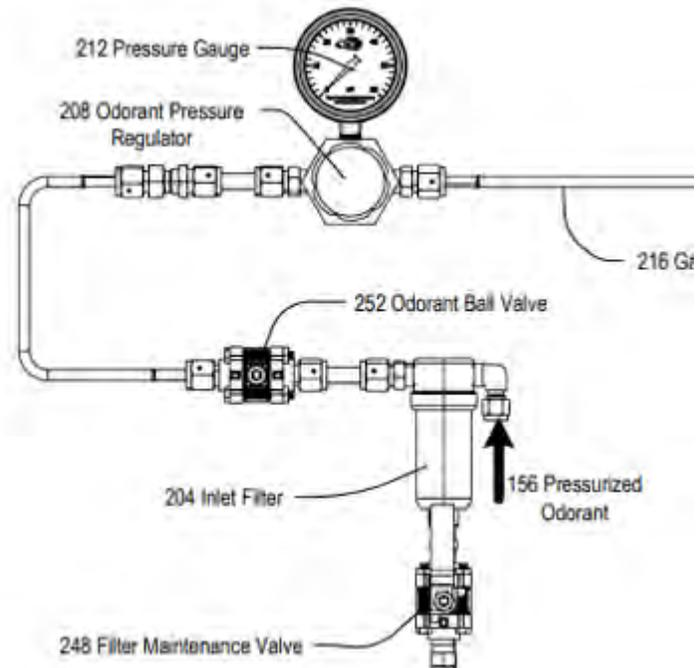

Figure 17 Shows the odorant supply ball valve and pressure regulator.
- Following the supply tubing to the mechanical cabinet of the GPL 5000, there is a valve located at the exterior of the box (252 in Figure 17). Open this valve slowly and check for leaks before continuing to step 5.
- If not already open, open the mechanical enclosure. The odorant is now pressurized up to the pressure regulator in this cabinet. In regular operation, the odorant pressure regulator must be set to 5-10 PSIG above the injection pressure. This changes depending on the application. Depending on demand, the end user can set the pressure to 10-15 PSIG above injection in a higher-flow application. If the injection pressure is 70 PSIG, the odorant pressure regulator must be set to 75 PSIG. Adjust the odorant pressure regulator (208 in Figure 17) by turning the handle clockwise slowly. Turn the handle until the pressure gauge (212) reads 5 PSIG greater than the pipeline. Ensure there are no leaks before moving to step 6.
6. **Double-check that the ball valve at the injection point is closed before continuing.** Open the electrical cabinet and log into the PLC using the username/password provided. (Refer to Login Section for credentials). Once logged in, press Menu → Maintenance, the screen should show the Usage Screen in Figure 18. Press the “Solenoid 1 Override” and “Solenoid 2 Override” so the screen shows “ON.” In the mechanical cabinet, open the metering valve one complete turn (counterclockwise). Inspect the line and make sure that there are no leaks. Next, inspect the regulator gauge in the mechanical cabinet (208 in Figure 17). Adjust the regulator to 5 PSI over the injection pressure if the pressure has decreased. Once it is determined that there are no leaks in the line up to the pipeline tap assembly, close the metering valve that was just opened (clockwise). Next, turn the “Solenoid 1 Override” and “Solenoid 2 Override” to “OFF.”